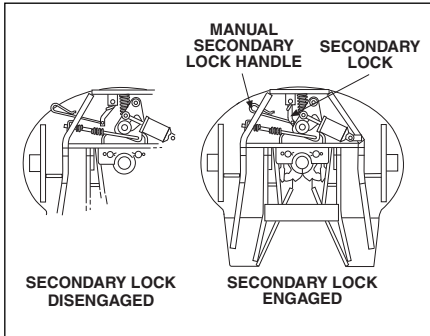

Figure 1
2. Make sure secondary lock is disengaged (see *Figure 1*).
6. Check to see if the secondary lock is engaged. If it is engaged, release it by pulling the secondary lock handle. To keep the lock open, place the handle loop end in the parking hole of the top plate. This holds the lock away from the yoke. (See figure 1)
7. Engage manual secondary lock. To engage the secondary lock, remove the handle loop end from the parking hole in the top plate and allow the handle to move in which causes the secondary lock to pivot behind the locking yoke. (See figure 1).
5. Check to see if the secondary lock is engaged. If it is engaged, release it by pulling the secondary lock handle. To keep the lock open, place the handle loop end in the parking hole of the top plate. This holds the lock away from the yoke (see *Figure 1*).